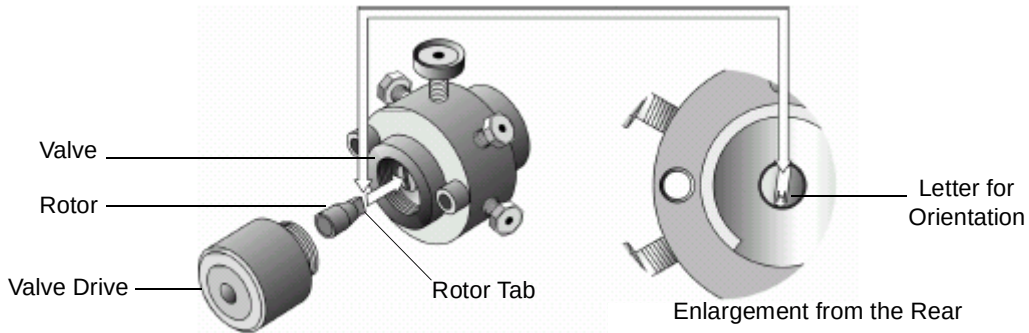

Figure 4-3 Replacing the Valve Rotor
1. Follow the arrows in Figure 4-3. Do not remove the valve from the valve drive. Do not remove any tubing or the loop.